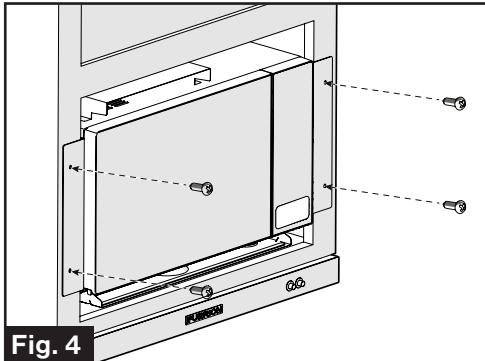

Fig. 4
4. Fix the microwave into the cabinet with 4pcs of KA screws M4x20mm provided. (Fig. 4)